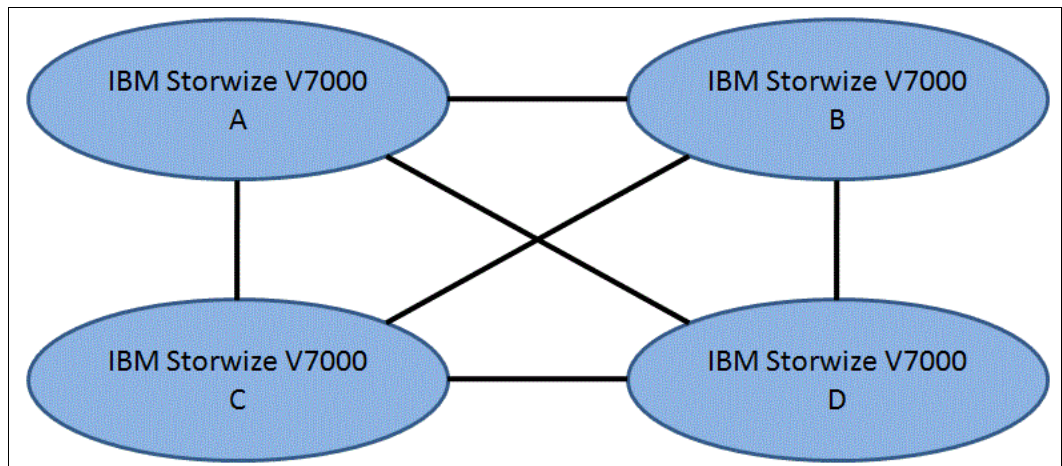

Figure 11-77 Full-meshed IBM Storwize V7000
- Full-meshed topology (Figure 11-77)